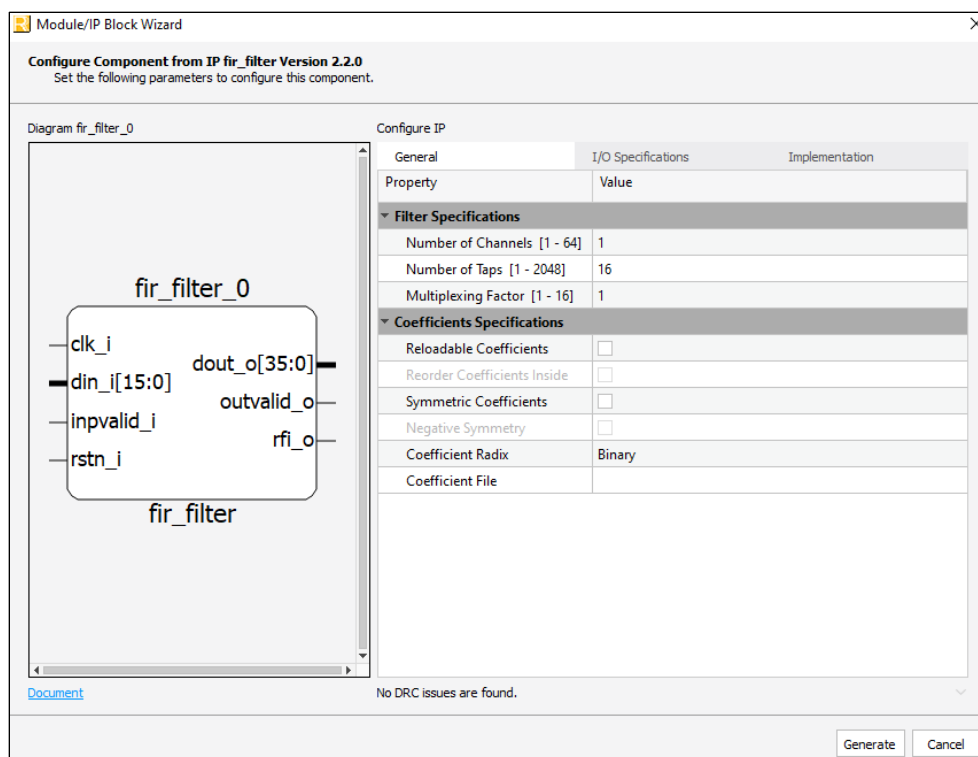

Figure 3.2. Configure User Interface of FIR Filter IP Core
3. In the **Module/IP Block Wizard** GUI, customize the selected FIR Filter IP Core using drop-down menus and check boxes. As a sample configuration, see Figure 3.2. For configuration options, see the